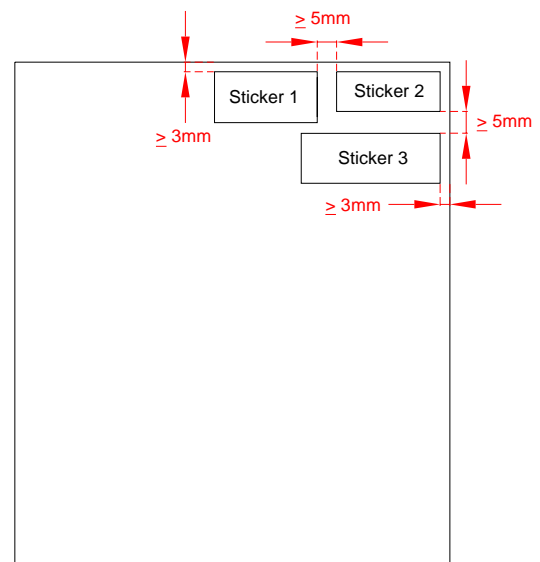

Fig. 4
- The gap between any 2 labels applied to the product must be at least 5mm as shown in Fig. 4